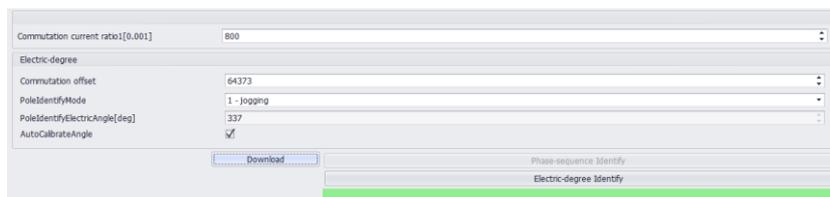

Figure 3-11 Completion of automatic commutation offset detection
2. Wait for about 5 -10 seconds. The status turns green, as shown in figure 3-11, which indicates that the zero point calibration is completed.